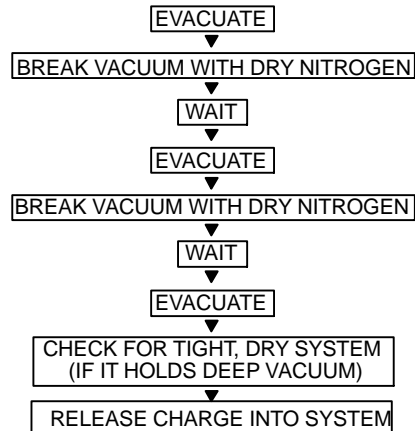

Fig. 15 – Triple Evacuation Method
The triple evacuation method should be used. Refer to Fig. 15 and proceed as follows:
5. Repeat this procedure as indicated in Fig. 15. System will then be free of any contaminants and water vapor.